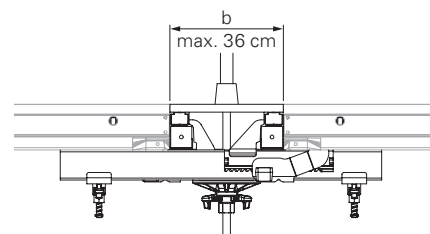

Fig. E7.02b
- When anchoring, ensure that the tie forces are transferred centrally through the Compensation Waler-4 MAR 85 (**33**) to the adjacent panels. (Fig. E7.02b)